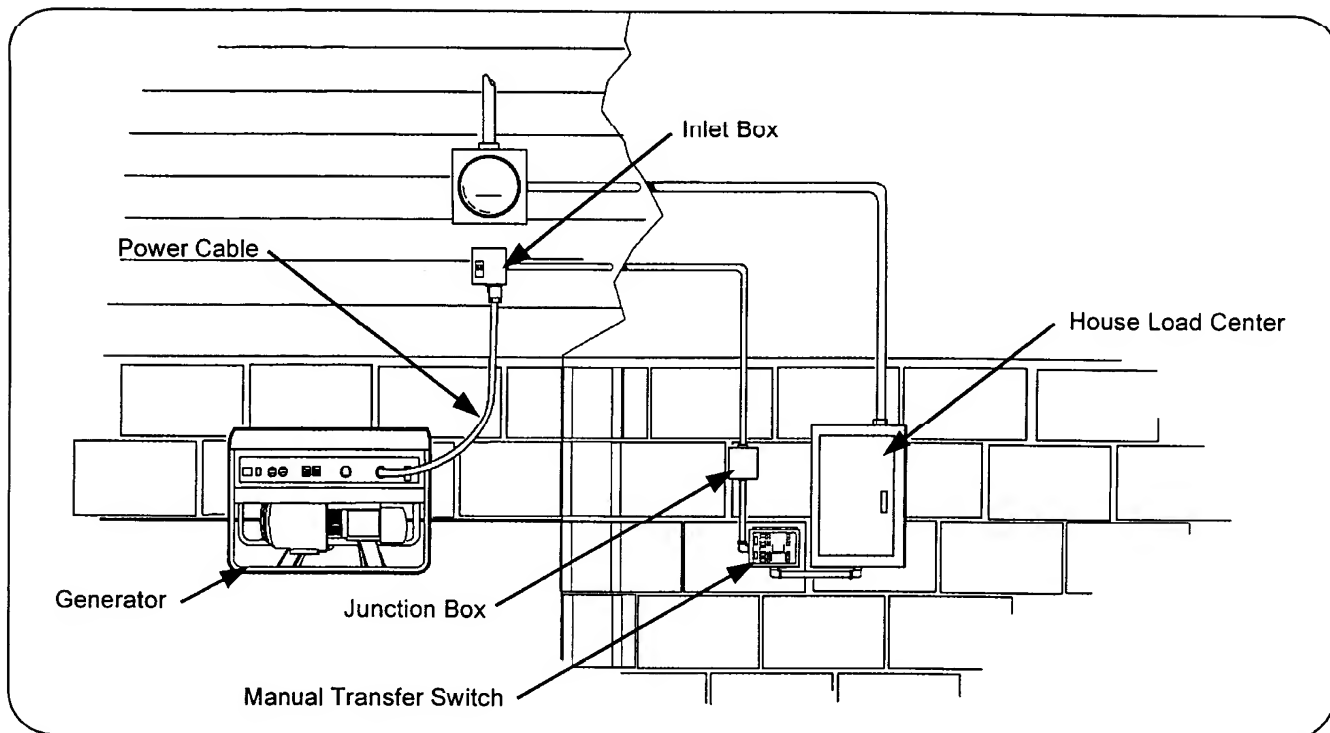

Figure 1. System Component Location
2. Ensure the inlet box circuit breaker is in the ON position. Refer to Figure 1.